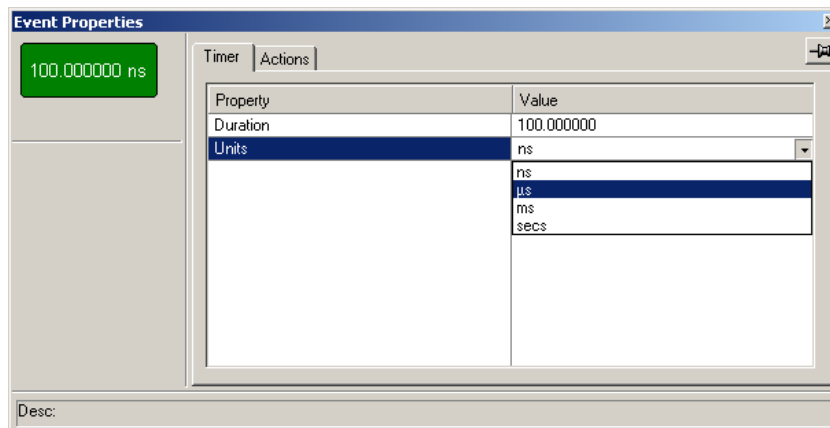

Figure 7.35 Example 5: Setting the Timer
Step 9 In the Properties dialog box for the timer, set the timer to 100 microseconds (Figure 7.35).